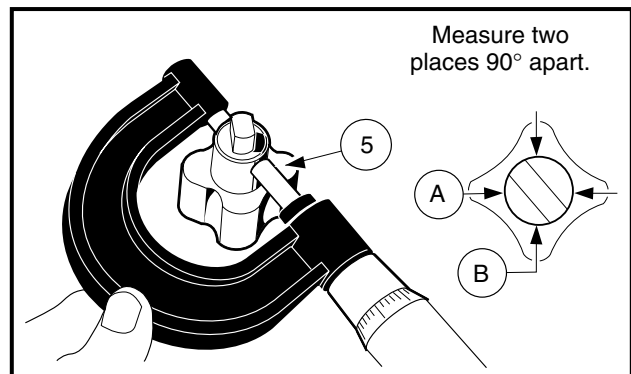

Figure 2-61 Measure Pump Shaft Bearing Surface
- 4.1. Measure the pump shaft bearing surface. Replace both rotors as a set if the measurement is less than 0.4971 inch (12.627 mm) (Figure 2-61, Page 2-29).